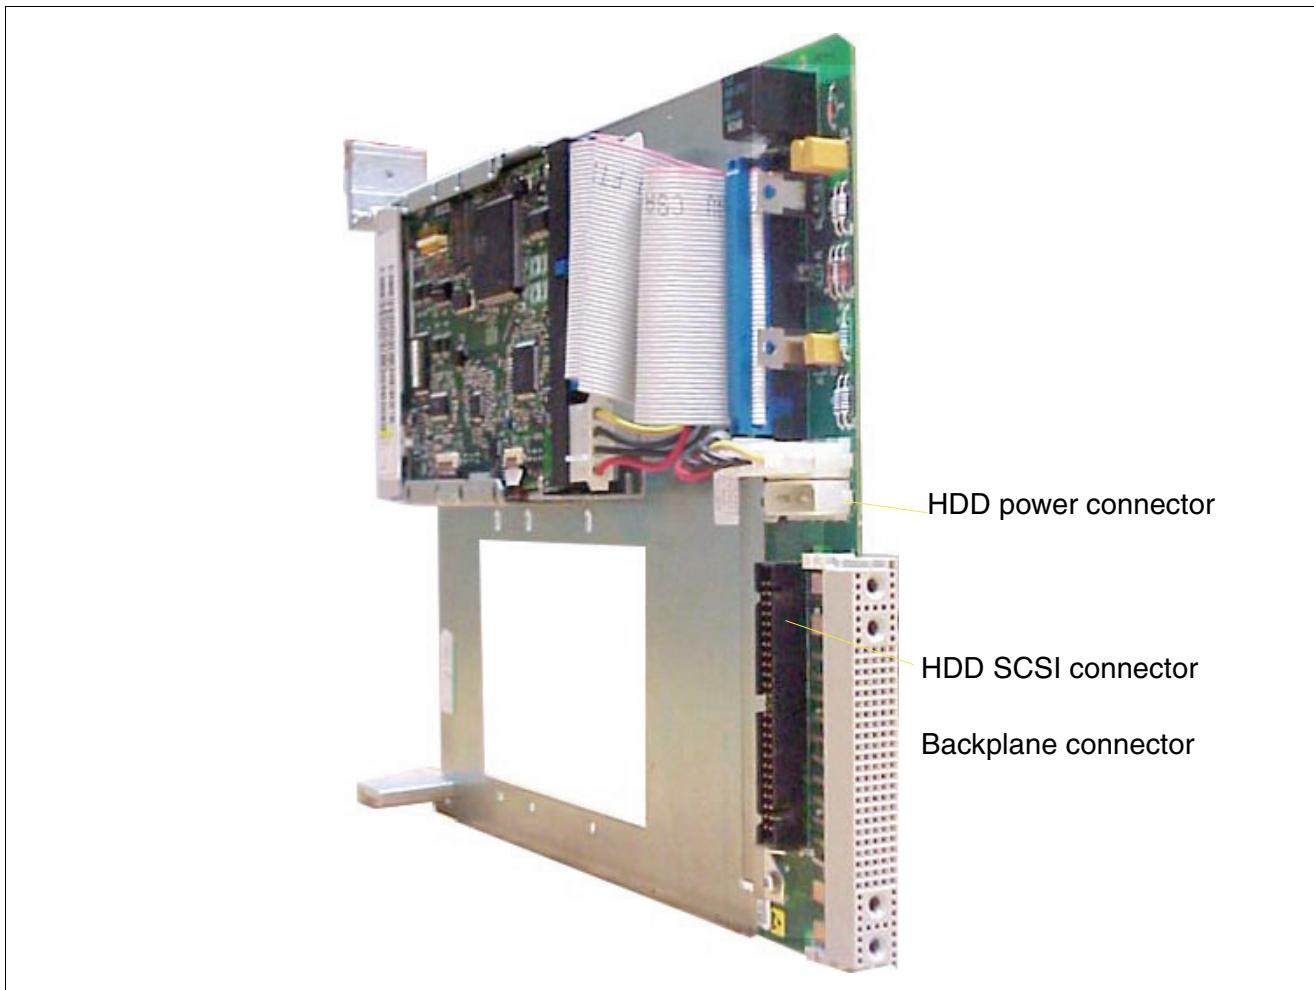

Figure 5-11 Drive Holder Showing MO-Disk Drive, Hard Disk, and Backplane Connectors
- d) Slide the drive holder into the shelf until it is seated into the backplane connector (see Figure 5-11)